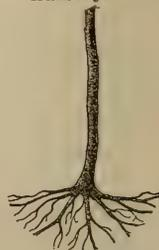

Fig. 95, Shows
- a. Practically the same rule that holds for pruning the stems of the apple and the pear is adhered to in pruning the stem of the peach. Fig. 95.